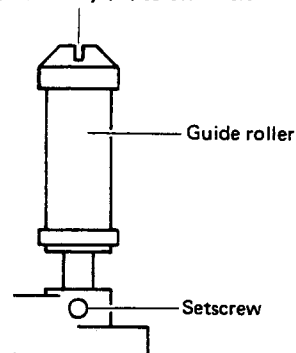

Fig. 2-22 Guide roller height adjustment
1. Loosen the guide roller setscrew (Fig. 2-22) just enough to allow turning the guide roller.